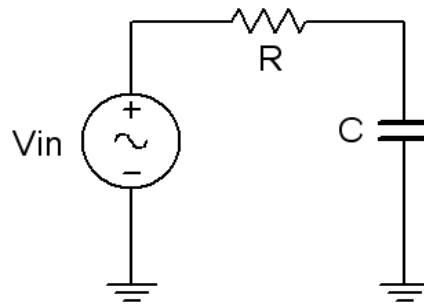

Figure 4.1
1. Using figure 4.1 with  $V_{in}=10\text{ V p-p}$  and  $R=10\text{ k}\Omega$ , and assuming that the reactance of the capacitor is much smaller than  $10\text{ k}$  and can be ignored, determine the circulating current using measured component values and record in Table 4.1.
2. Build the circuit of figure 4.1 using  $R=10\text{ k}\Omega$ , and  $C=1\text{ }\mu\text{F}$ . Place one probe across the generator and another across the capacitor. Set the generator to a  $200\text{ Hz}$  sine wave and  $10\text{ V p-p}$ . Make sure that the *Bandwidth Limit* of the oscilloscope is engaged for both channels. This will reduce the signal noise and make for more accurate readings.